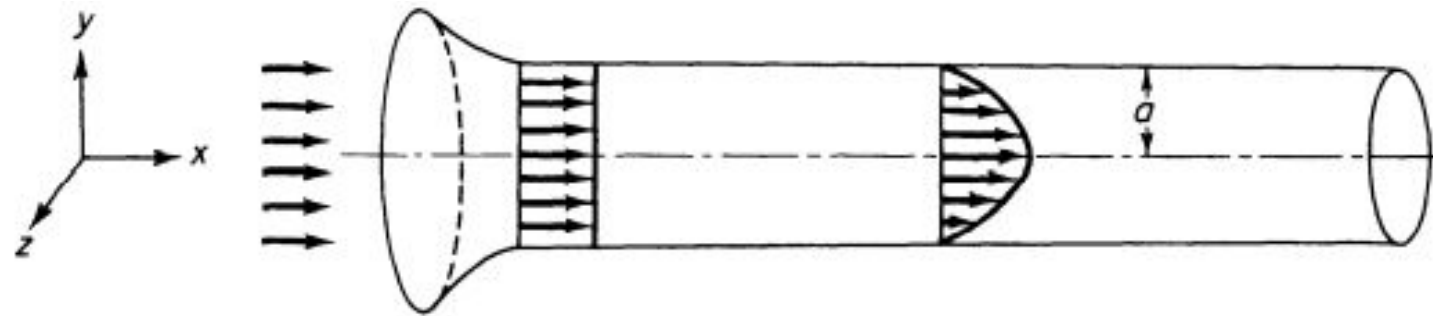

Figure 3.3:1 Velocity profiles in a steady laminar flow into a circular cylindrical tube.
- The polar axis coincides with the axis of the cylinder. See Fig. 3.3: 1.